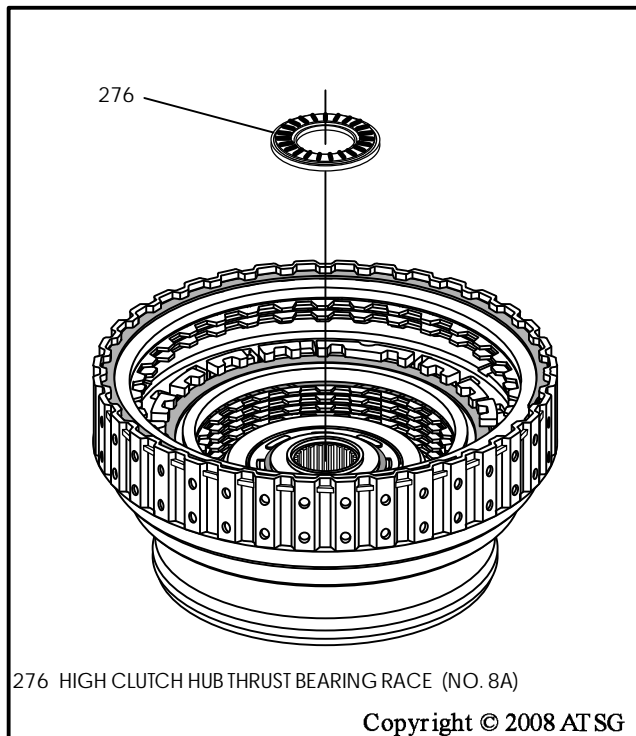

Figure 143
23. Install the number 8 thrust bearing inside the high and reverse clutch housing, as shown in Figure 143, and retain with a small amount of Trans-Jel®.